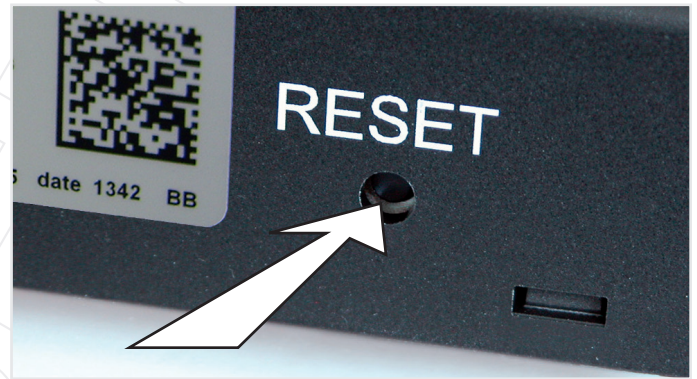

Figure 19: Receiver Reset Button
- Press and hold the receiver's reset button (see figure 19) until you hear two (2) beeps. The first beep is short and the second beep is long. After the second beep, release the reset button.